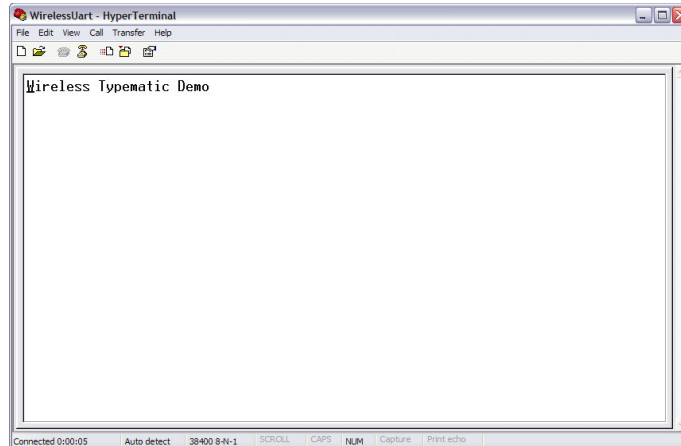

Figure 42. WirelessUART Message
4. Connect the board that is running the WirelessUART application to the serial port of the PC and press that board's reset button. A message appears on the PC display as shown in Figure 42: